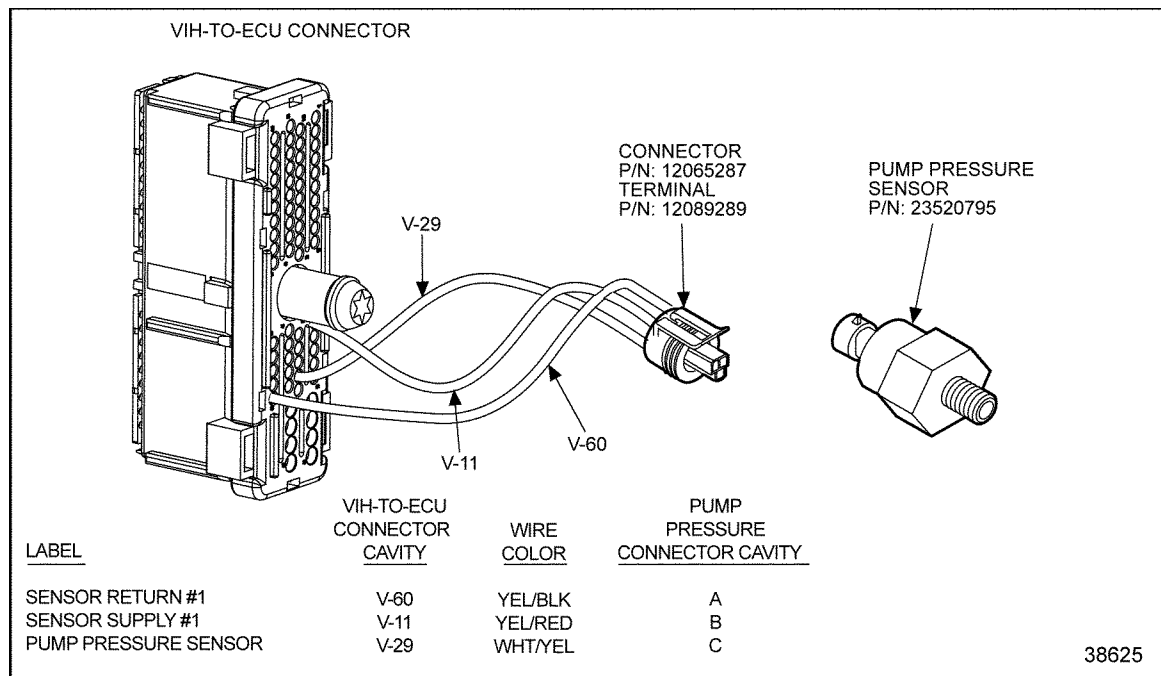
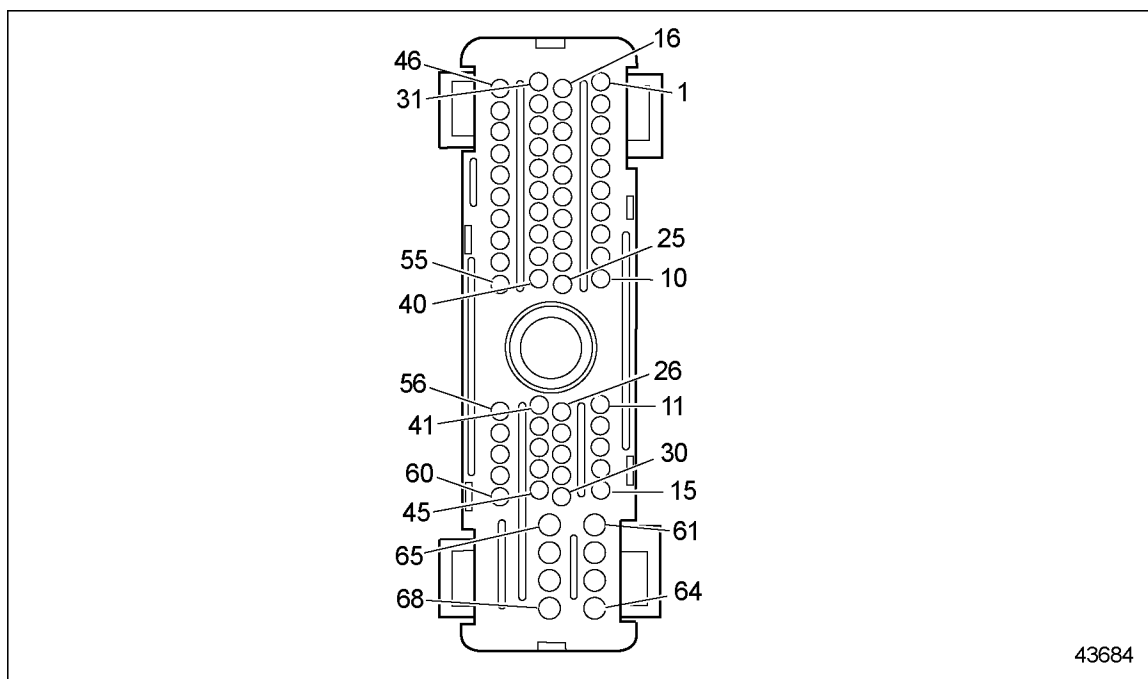

Figure 73-2 Pump Pressure Sensor
Figure 73-3 ECM/ECU Vehicle Harness Connector
2. Disconnect the vehicle harness connector at the ECM/ECU. See Figure 73-3 and see Figure 73-2.